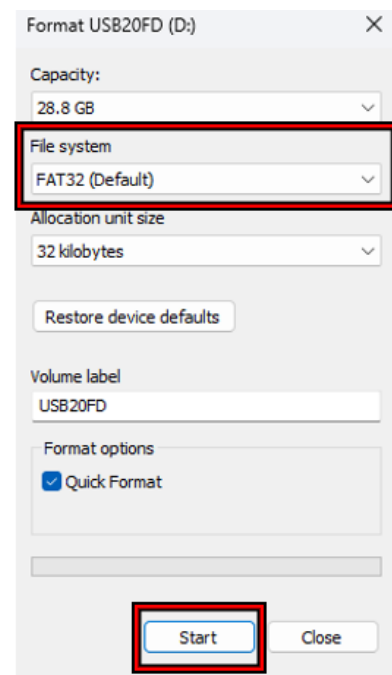

Figure 2. Formatting USB Drive
4. Select FAT32 from the drop down menu under File system and select start. Refer to **Figure 2**.